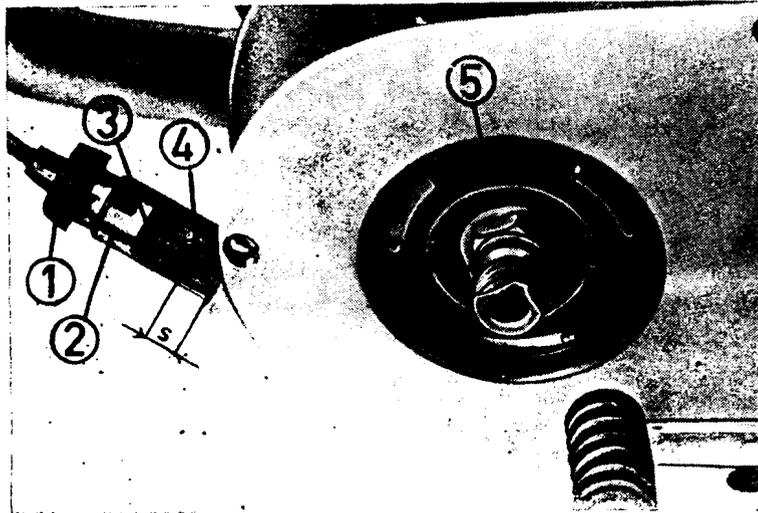

Fig. 16. Coarse adjustment of clutch
Adjust the clutch clearance of 3 mm by means of the adjusting screw (1). Lock the adjusting screw again. If the adjusting screw (1) is not sufficient for correcting the adjustment, then correct the coarse adjustment. For this purpose dismantle the clutch cable control according to the order of the numbers given in Fig. 16 and turn the adjusting plate (5) until at the nipple holder kept taut an amount of S = 11 mm is achieved.